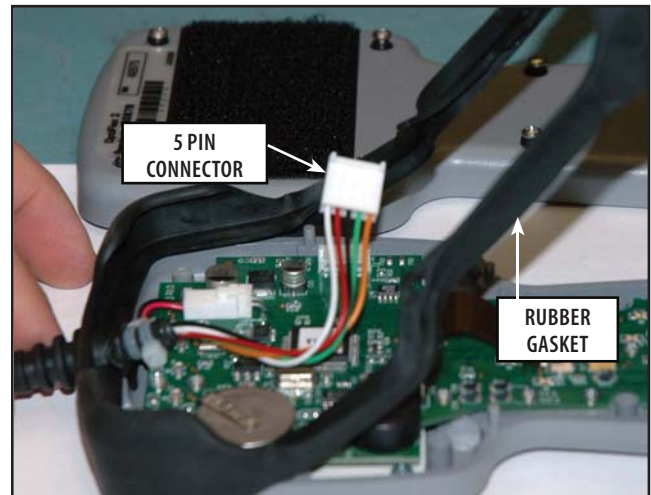

FIGURE 6.22
4. Detach the 5 pin connector from the Control Board of the Pendant. **Refer to Figure 6.22.**